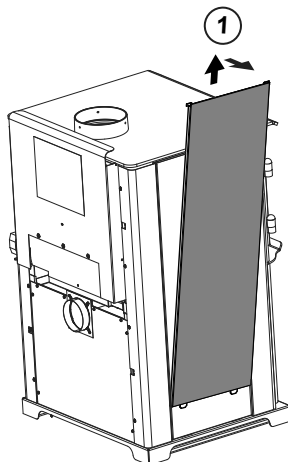

Figure 25.4
1. Remove solid panel from side by lifting up and pulling away from appliance (use a flat tool to pry from bottom if needed) (**Figure 25.4**).
2. Remove tile frame from side by lifting up and pulling away from appliance (**Figure 25.4 reference solid side panel removal**).